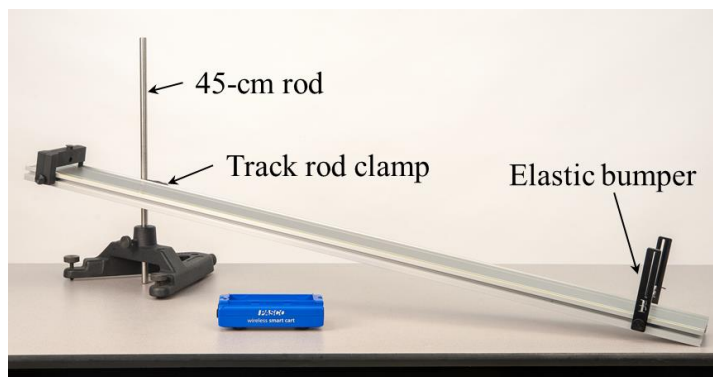

Figure 1: Inclined Track Setup
1. Set up the track as shown in Figure 1 using the rod base and 45-cm rod.